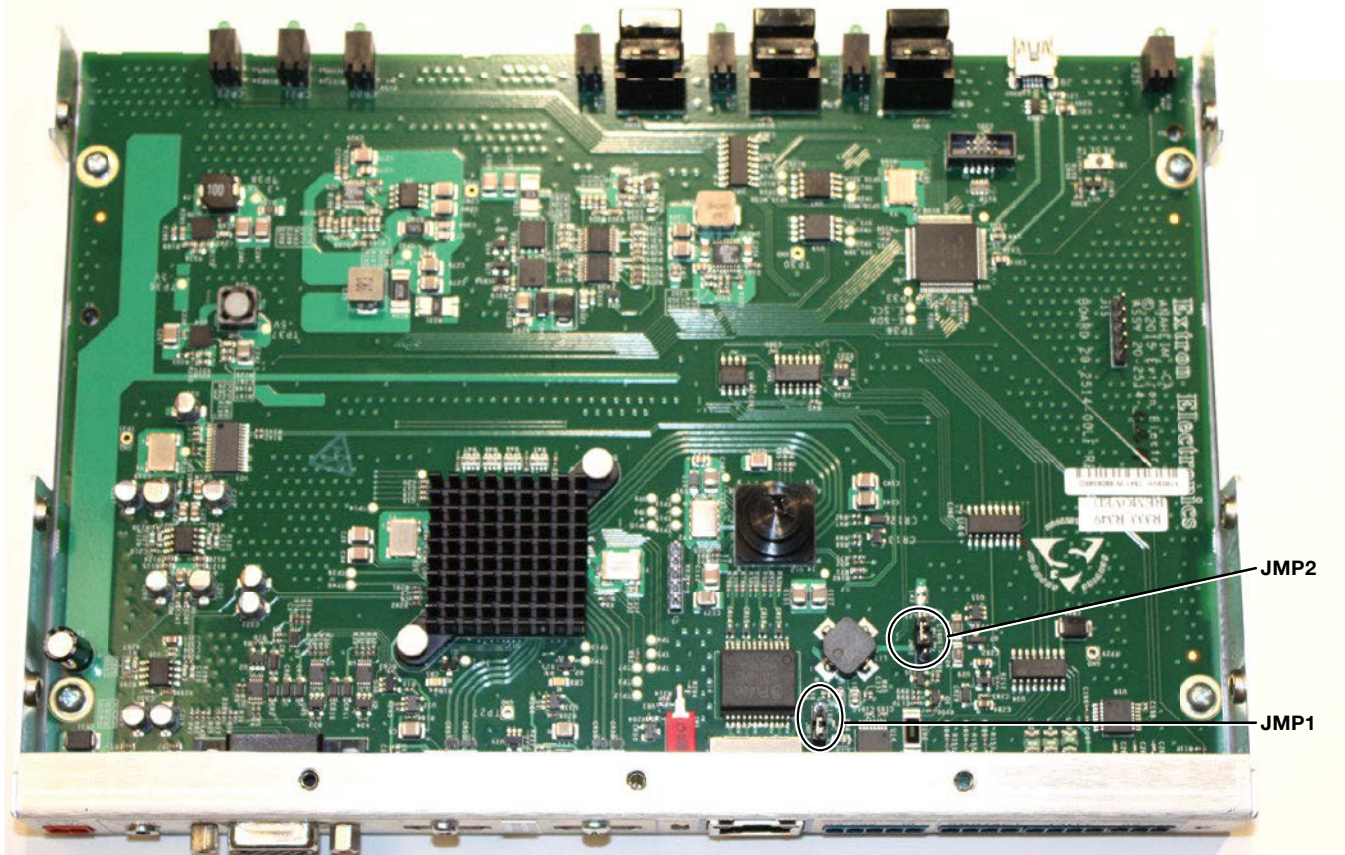

Figure 20. Jumper Locations
3. Locate and **lift off** jumpers JMP1 and JMP2 (see figure 20 on the next page).